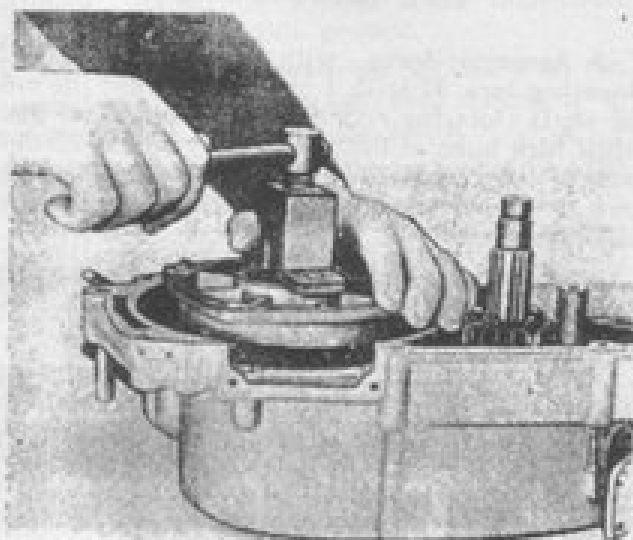
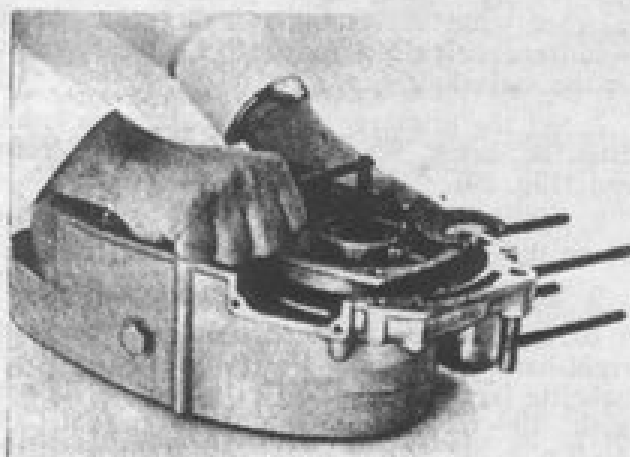

Fig. 31. Pressing-off the HJK-10-3 motorcycle crank chamber cover (1-st method).
Fig. 32 Pressing-off HJK-10-3 motorcycle crank chamber cover (11-nd method).
1. Undo screws fastening the crank chamber covers and remove the cover with packing rings using remover 5, Set No. 1 (Fig. 31). If there is no remover, use a wrench 24—27 from the tool set for a purpose. In this case insert two cover fastening screws into the wrench openings and screw them into the crank chamber cover. In the middle opening of the wrench screw in the armature remover. While screwing in, the remover rests against the crankshaft half axle and tightens the crank chamber cover (Fig. 32).